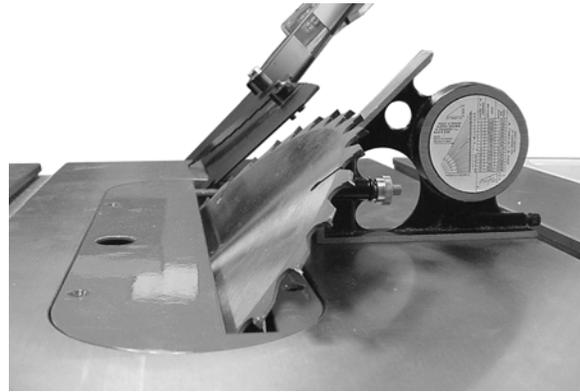

Figure 32
5. If the blade is not at 90°, loosen the lock nut (A) and turn the adjusting stop screw (B) in or out. The adjusting stop screw (B) should stop against the end of the tilting screw (C) when the blade is 90° to the table.
6. Place a square on the table after turning the blade to the 45° stop (Figure 32). If the 45° positive stop is not set properly, follow the same procedure using the screw (D) and lock nut (E) (not visible in photo).